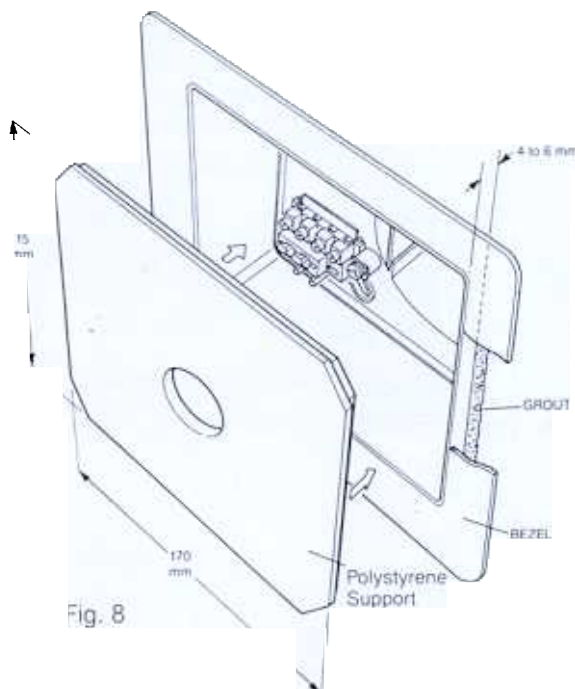

Fig. 8
6.5 Grout the casing and pipe in place making sure that the top edge of the casing is horizontal, the front protruding and that the tubing is flush with the outside. The pressure of the grouting material may cause the casing to bow, therefore it is recommended that the polystyrene support is used until the grout has set (see Fig. 8). Alternatively, check that the grille is a loose fit within the casing before the grout has set.